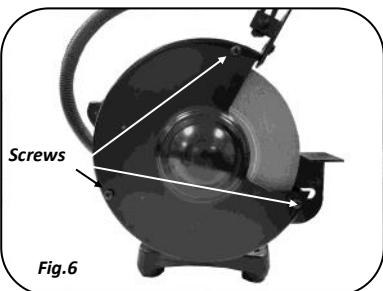

Fig.6
- Loosen and remove the 3 screws holding the guard cover to access the grinding wheel. (Fig. 6)